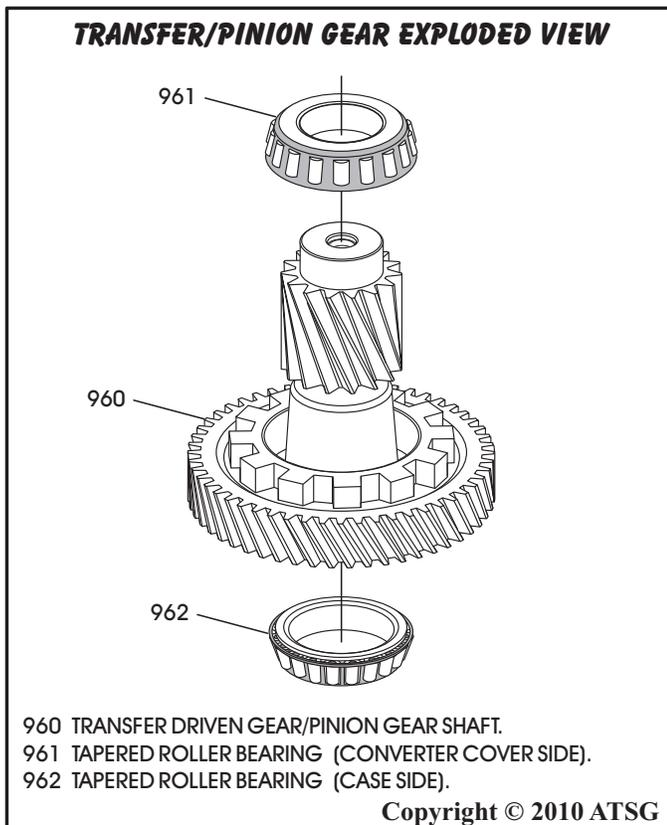

Figure 146
1. Disassemble transfer driven gear/pinion gear assembly, using Figure 146 as a guide.
4. Install new tapered roller bearings as necessary as shown in Figure 146.